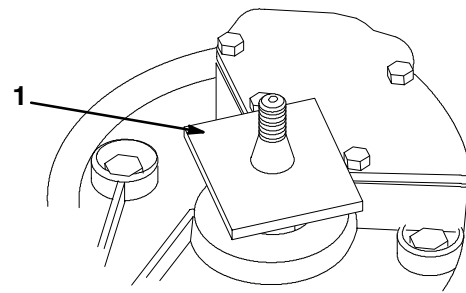

Figure 34
5. Remove the blade driver by tapping it with a plastic or fiber hammer in the direction of rotation (Fig. 34).